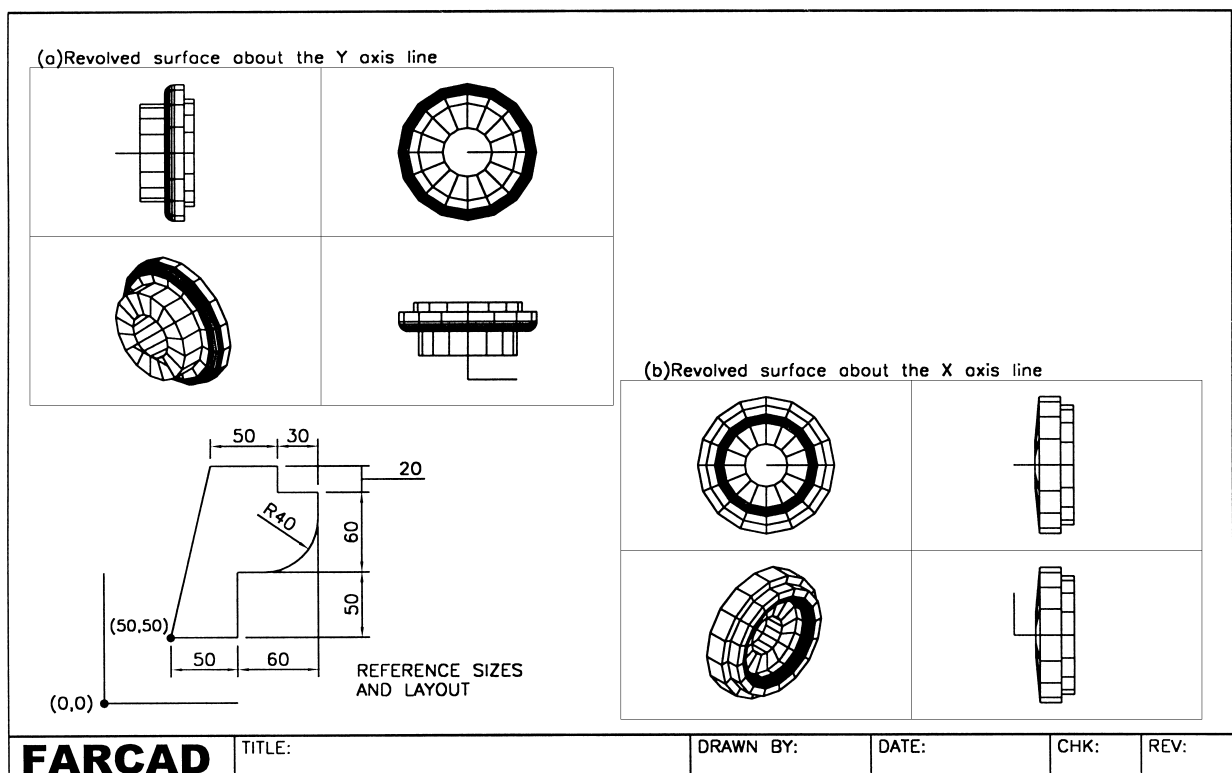

Figure 18.1 Revolved surface example 1.
- 1 Open the MV3DSTD template file, MVLAY1 tab and layer MODEL current, UCS BASE and refer to Fig. 18.1
- 5 Using the polyline icon from the Draw toolbar, create a **CLOSED** polyline shape using the reference sizes given in Fig. 18.1. The start point is to be 50,50